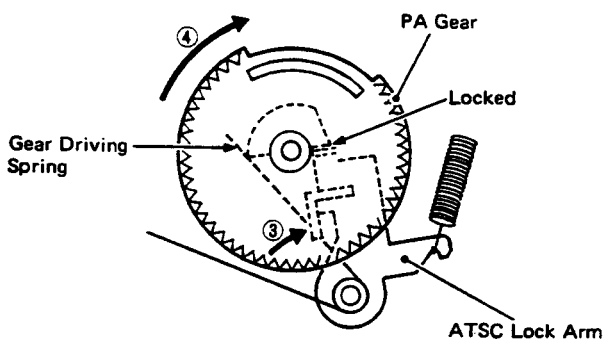

Fig. 13
- (9) In ejected state, PA gear remains locked by ATSC lock arm, as shown in Fig. 13. The force along arrow ③ caused by the operation of above step (8), releases the lock if PA gear, whereupon the PA gear is made to rotate slightly along arrow ④ by the gear driving spring. As a result, the PA gear engages with sensing cam gear, and proceeds to turn through 1 more rotation. The cam of PA gear then causes the HD drawing arm and key-off lock arm to move along arrow ⑤. The HD drawing arm pushes against a lever, and a spring attached to the lever causes the head base to shift along arrow ⑥